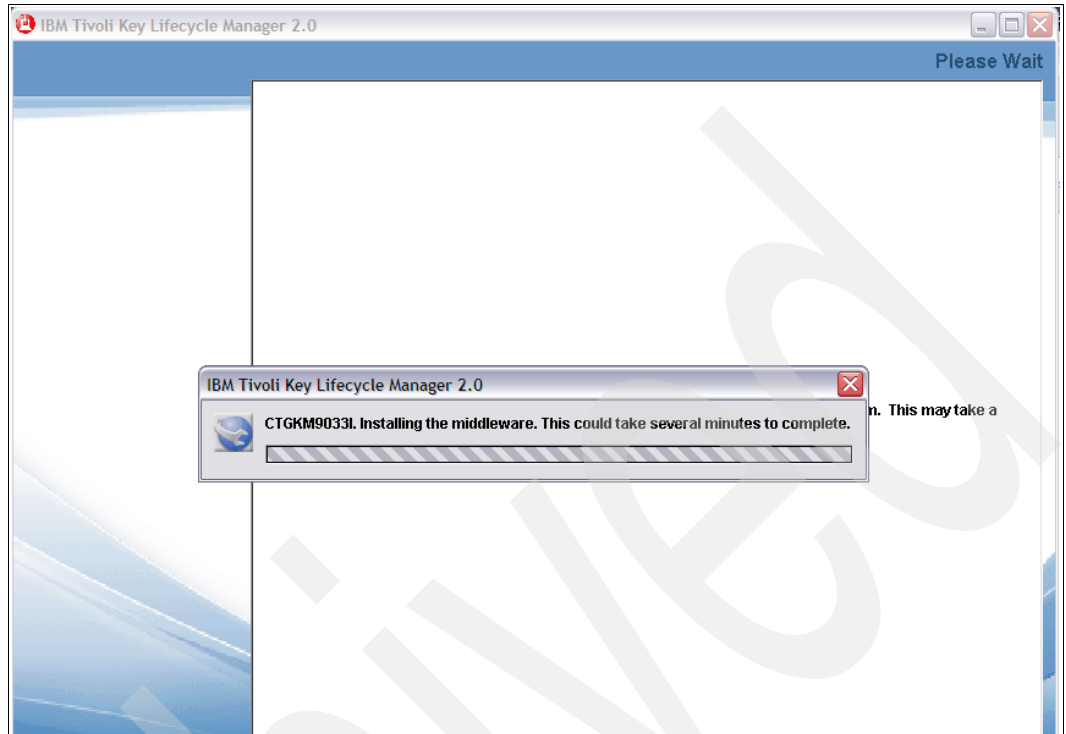

Figure 6-7 TKLM\_v2\_inst
- TKLM v2 installation begins (Figure 6-7). *Do not touch the keyboard or mouse* during this process; wait for the next prompt.